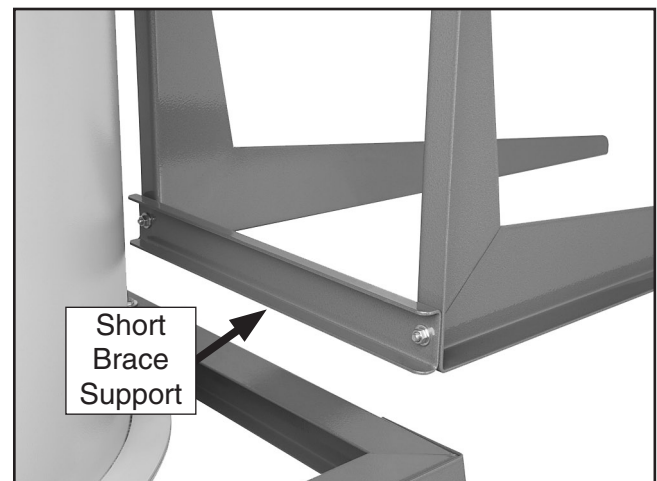

Figure 26. Short filter brace support attached.
- Attach the filter L-braces to either side of the outlet port on the blower housing with (6) $\frac{5}{16}$ "-18 x 1" hex bolts, (12) $\frac{5}{16}$ " flat washers, and (6) $\frac{5}{16}$ "-18 hex nuts.
- Secure the short filter brace support to the back of the filter L-braces with (2) $\frac{3}{8}$ "-16 x $\frac{3}{4}$ " hex bolts, (4) $\frac{3}{8}$ " flat washers, and (2) $\frac{3}{8}$ "-16 hex nuts (see **Figure 26**).